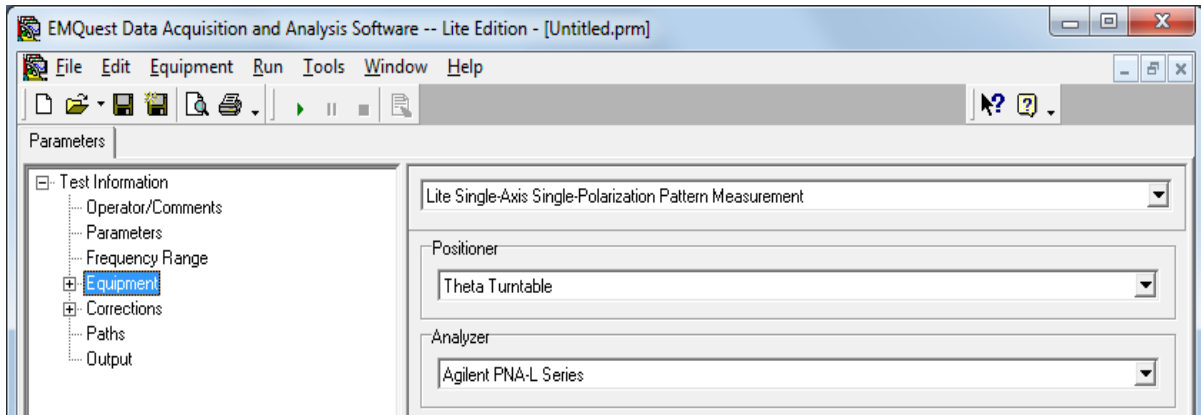

Figure 6. Equipment pane: positioner and analyzer (STEP 7).
7. Click on **"Equipment"** and select the test equipment that is interfaced with **EMQuest**, i.e. the "Theta Turntable" **positioner** for azimuth rotation and the "Agilent PNA-L Series" network **analyzer**, as shown in Figure 6 below.